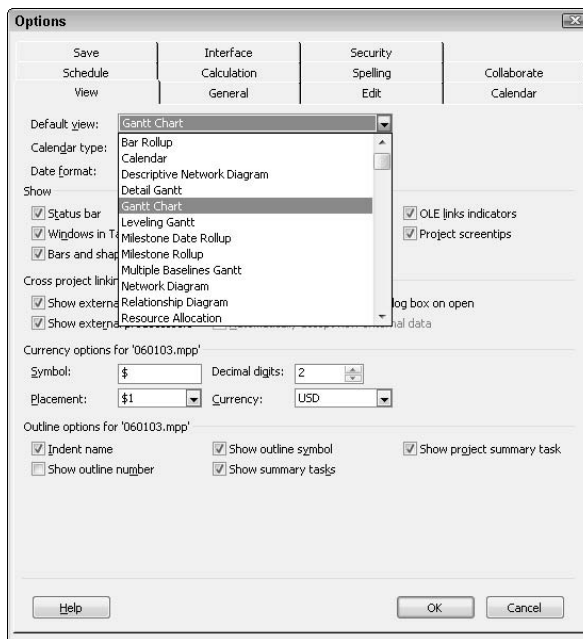

Figure 1-5: The View tab of the Options dialog box.
2. Click the View tab shown in Figure 1-5.